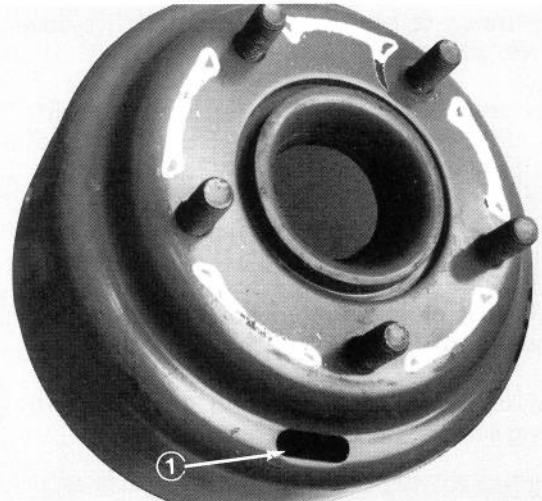
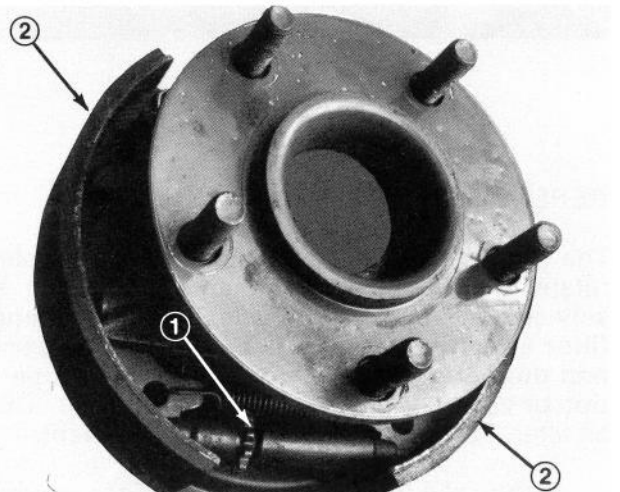

Figure 57
Figure 58
5. Remove wheel nuts and slide wheel and tire assembly off studs. Rotate brake drum until adjusting slot is at bottom and centered over star nut that adjusts brake shoes (Fig. 57.)
6. Using a brake adjusting tool or screwdriver, rotate star nut (Fig. 57) down until brake drum (Fig. 58) locks because of outward pressure of brake shoes (Fig. 58).